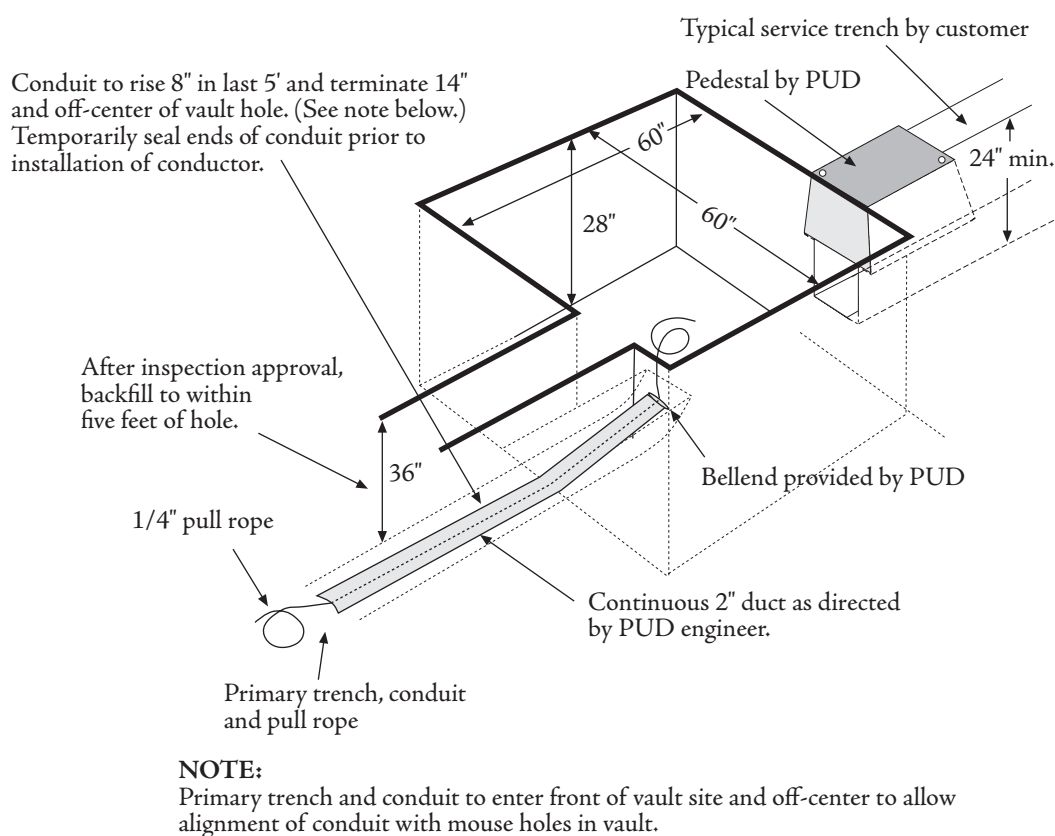

Figure 4-13
- a. The customer shall prepare the vault site in accordance with Figure 4-13.